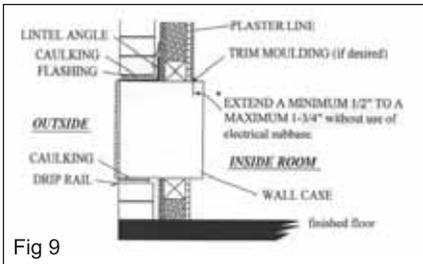

Fig 9
Weather proofing gaps between the exterior wall and the sleeve with caulking or other equivalent weather proofing material(Fig 9)
- b) If the sleeve is being installed in a wall where the recess 3" or less, a flashing must be installed under the sleeve and extend up 2" on each side. The flashing must include a drip rail as shown above Fig 9.